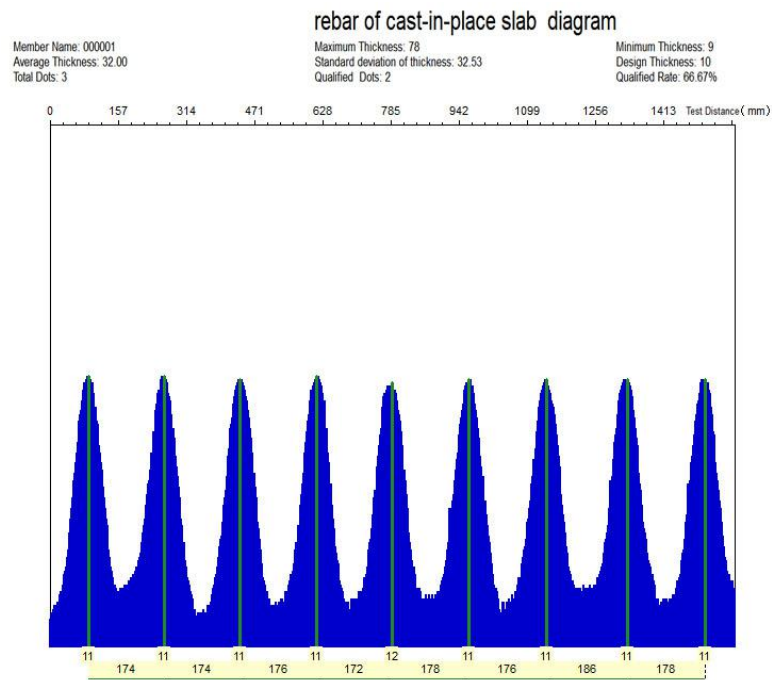

Figure 4.15
(4) Waveform scan: when users view an object of waveform scan, the interface shown in Figure 4.15 is displayed, where the X coordinate represents specific positions of rebars, and each green vertical line represents a rebar.